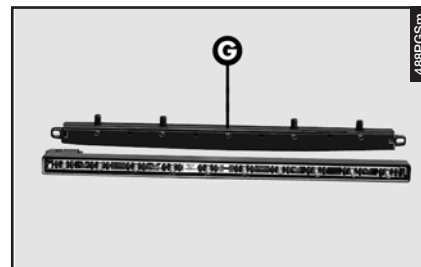

fig. 67
- Remove the transparent cover (**G**-fig. 67) and replace the bulb concerned